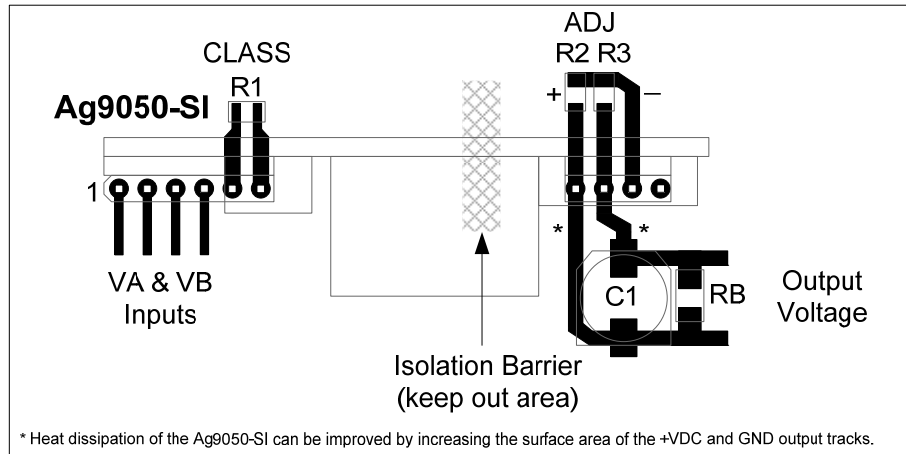

Figure 8: Typical Layout
To meet the safety isolation requirements of IEEE802.3af section 33.4.1 a Powered Device (PD) must pass the electrical strength test of IEC 60950 sub clause 6.2. This calls for either a) 1500VAC test or b) 1500V impulse test. The Ag9050-SI is specified to meet the 1500V impulse test. It is also important that the tracks on either side of the isolation barrier have at least a 3mm clearance, see Figures 8 & 9 and Section 11 for more information.
Figure 8: Typical Layout gives an example of the tracking needed for the Ag9050-SI. R1, R2 and R3 are optional components, RB is only needed if the minimum output current is <20mA. C1 needs to be positioned close to the output pins of the Ag9050-SI as possible to minimise the current loop. The thermal performance of the Ag9050-SI can be improved by increasing the surface area of the output tracks (+VDC and GND). This is not applicable if the Ag9050-SI is in a socket.